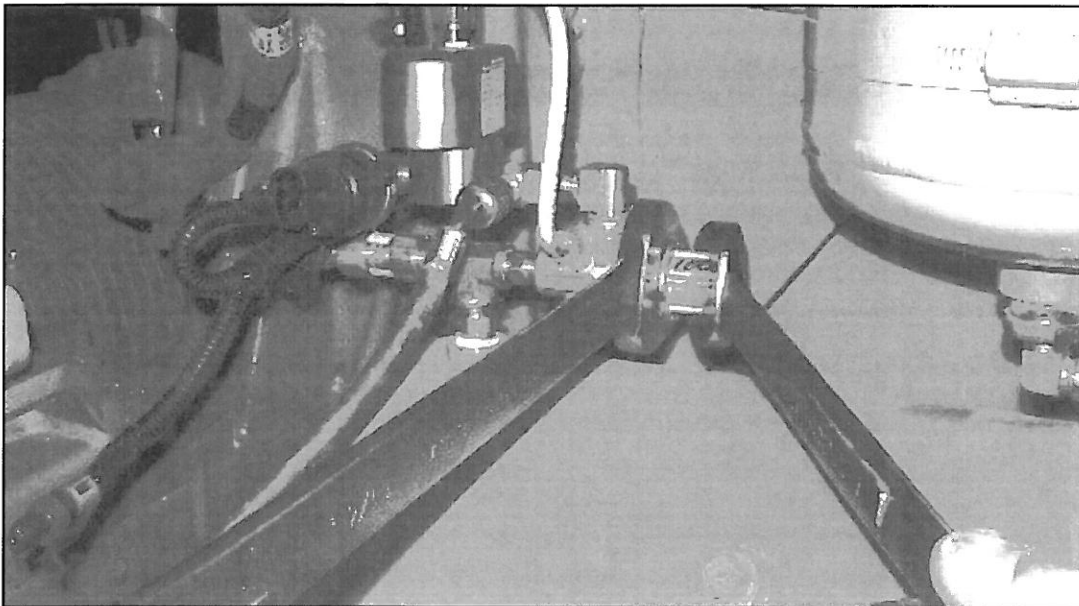

Figure 5.
15. Using two (2) wrenches, carefully loosen the regulator jam nut, and rotate adjustment knob counter-clockwise until 50 psi is displayed on the connected air gauge (refer to Figure 5).